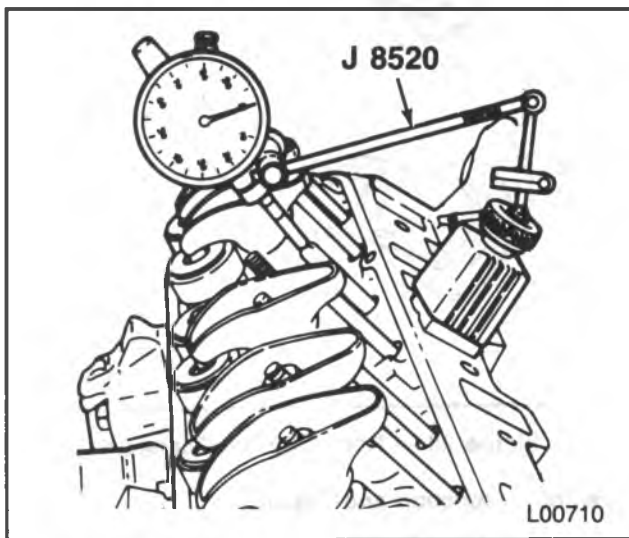

Figure 24 — Measuring Camshaft Lobe Lift
2. Refer to figure 24. Position the dial indicator (part of J 8520) so the plunger rests on the pushrod end as shown. Make sure the pushrod is in the lifter socket.